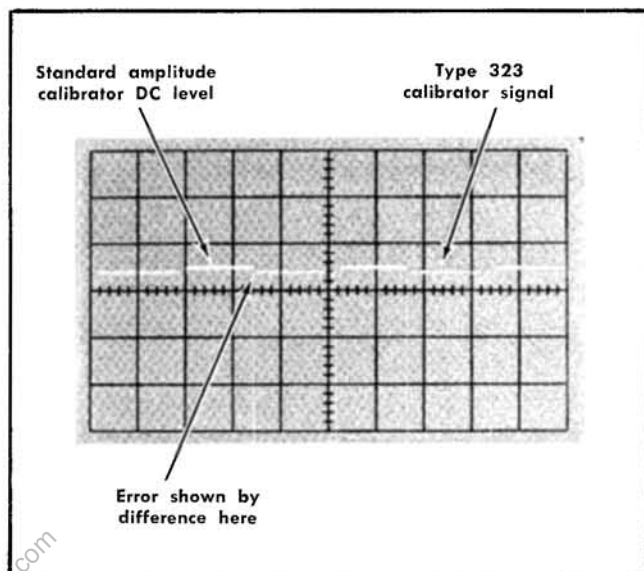

Fig. 5-7. Typical CRT display when checking voltage output of calibrator.
g. CHECK—Difference between the standard amplitude calibrator output level and the Type 323 calibrator output level is 0.05 division (about one trace width) or less (0.5 volt,  $\pm 1\%$ ; see Fig. 5-7).